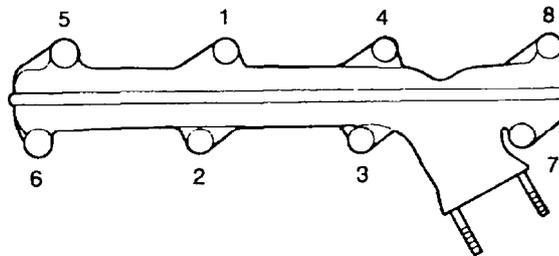

Figure 19 Exhaust Manifold - Tightening Sequence
- d. Check that each gasket is correctly positioned and not distorted and install the nuts and washers. Torque the nuts and bolts to 16 to 25 N.m (12 to 19 lbf.ft) using the tightening sequence shown in Figure 19.